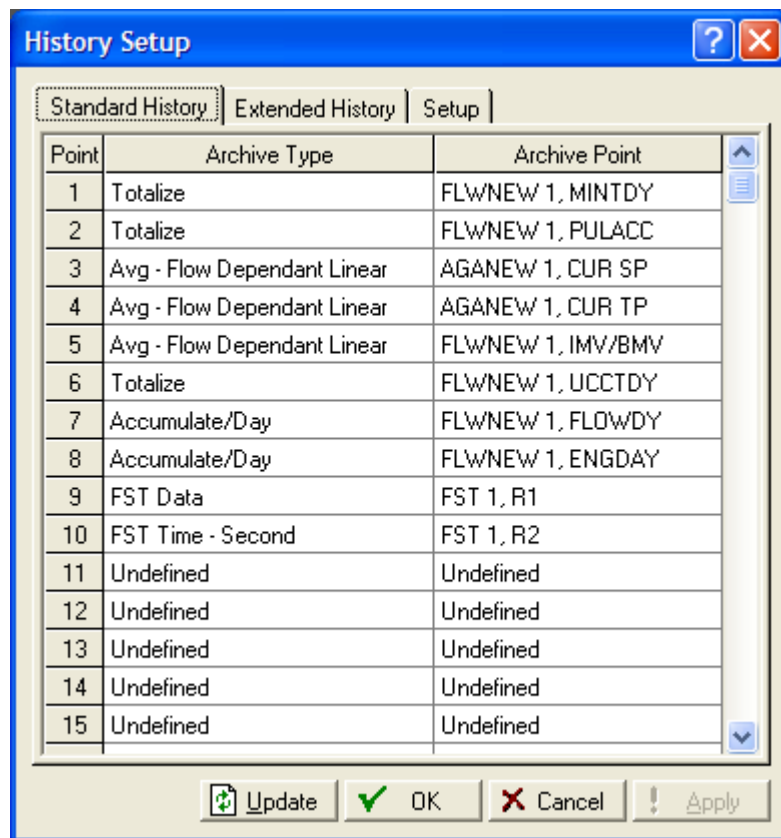

Figure B-3. History Setup
- b. Write the value saved in the Results Register to the historical database (**WDB**), placing it at point **9** (FST Data at FST 1, R1, as defined on the History Setup screen in *Figure B-3*). The system also creates an historical index for point 9 in FST1.